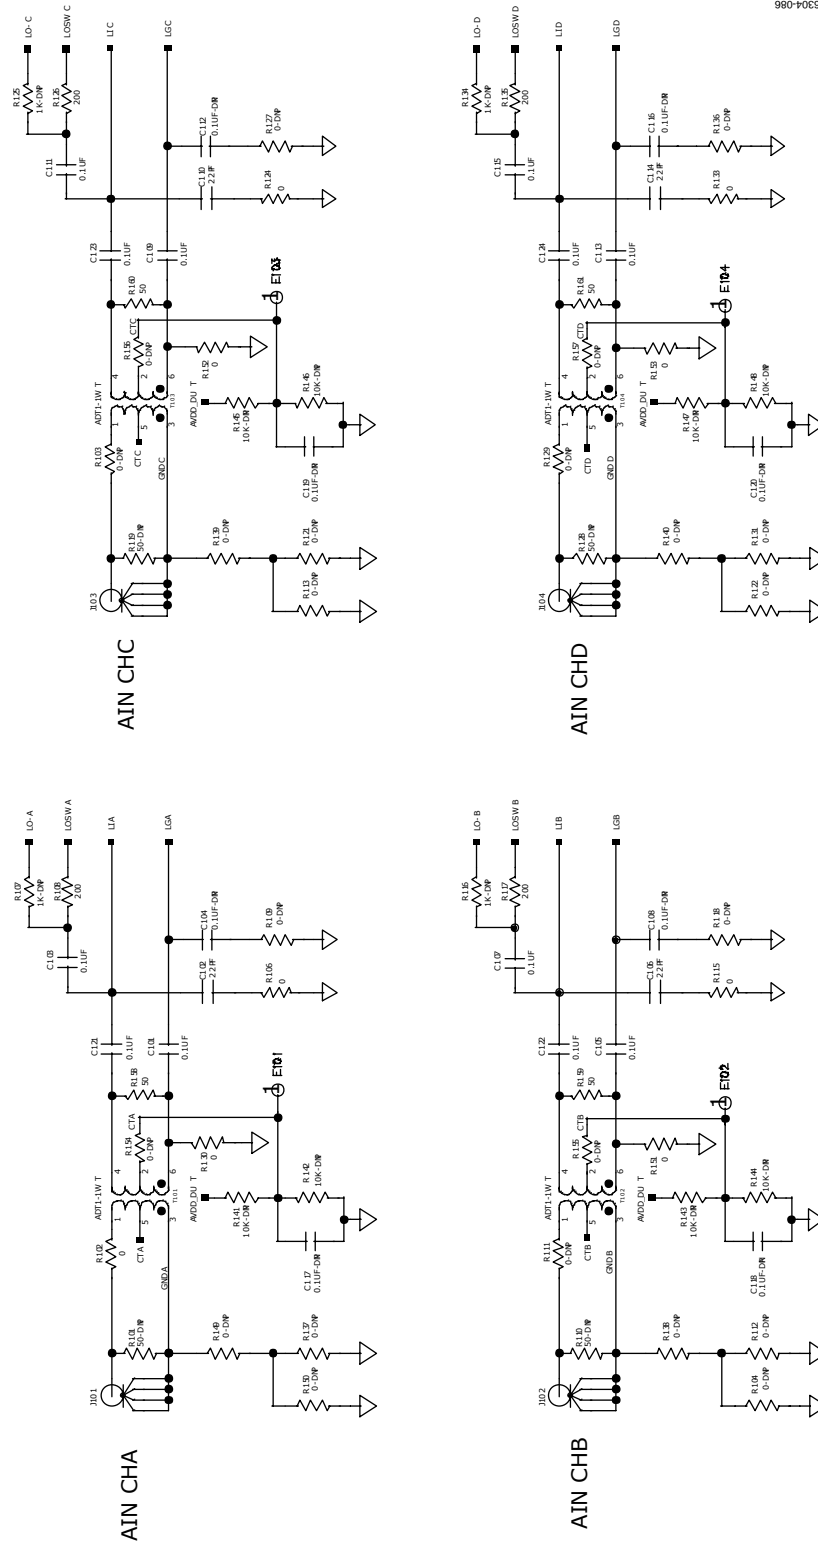

Figure 67. Evaluation Board Schematic, DUT Analog Inputs
- **D+, D-:** If an alternative data capture method to the setup described in Figure 67 is used, optional receiver terminations, R318, R320 to R330, can be installed next to the high speed backplane connector.